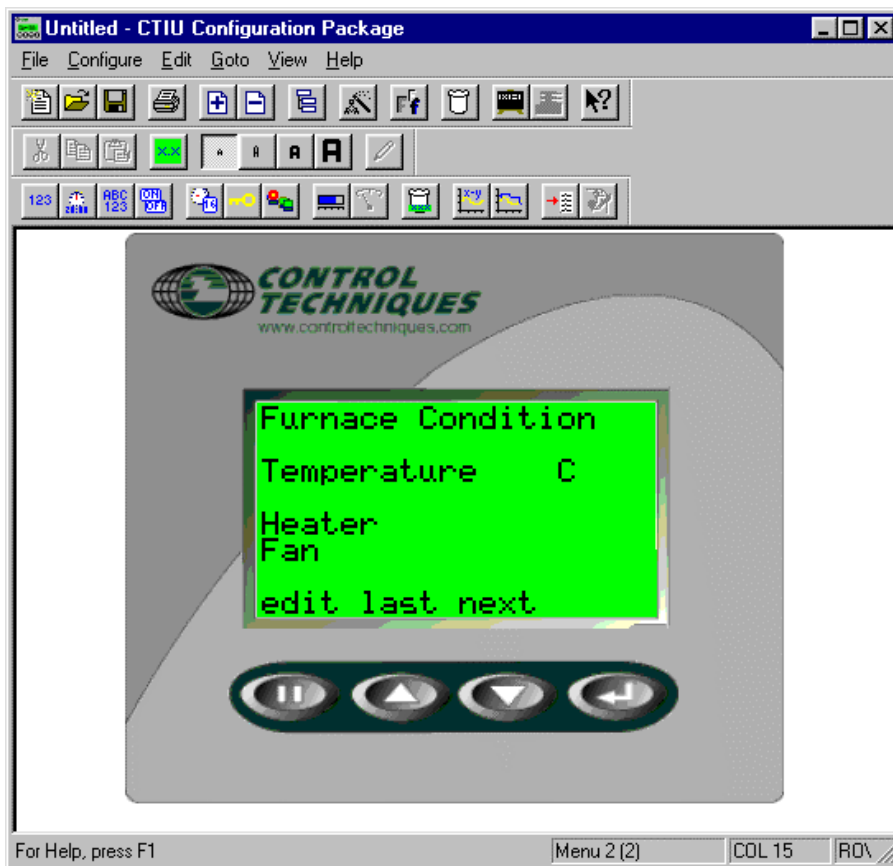

Figure 12.2 – Menu Page
4. Enter the text as shown in Figure 12.2.
Example: Continuing from the example in Figure 12.2, one sub-menu is set up for the heater and one for the fan. Each sub-menu sets the temperature (within the furnace) at which the heater or fan turns ON/OFF.